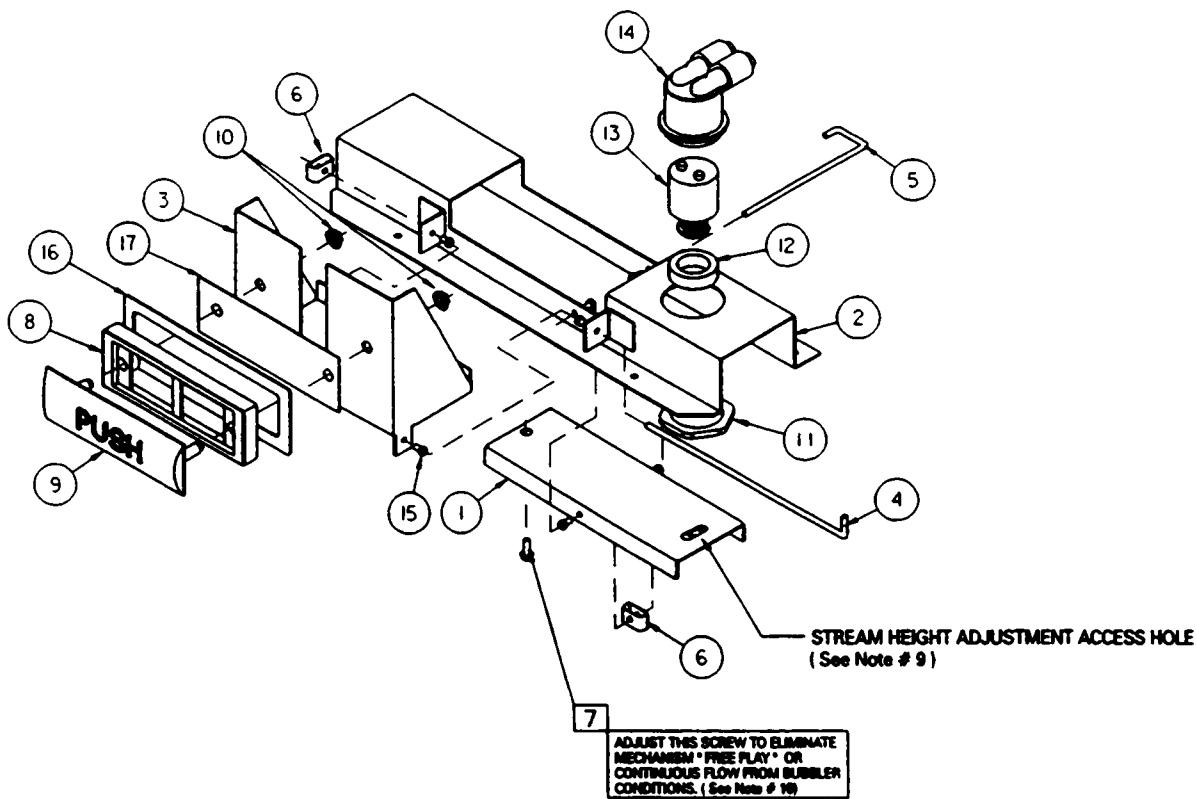

FIG. 7
9. Check stream height from bubbler. Stream height is factory factory set at 45 - 50 PSI. If supply pressure varies greatly from this, adjust screw on regulator (Item 13). Clockwise adjustment will raise stream height and CCW adjustment will lower stream height. For best adjustment stream height should be approximately  $1\frac{1}{2}$ " (38 mm) above the bubbler guard. (See Figure 7 and 9 on page 5)
- Turn adjustment screw (Item #7, figure 7, page 5) "Counter-Clock-wise" until water flow from bubbler starts.
9. Check stream height from bubbler. Stream height is factory set at 45 - 50 PSI. If supply pressure varies greatly from this, adjust screw on regulator (Item 15). Clockwise adjustment will raise stream height and CCW adjustment will lower stream height. For best adjustment stream height should be approximately  $1\frac{1}{2}$ " (38 mm) above the bubbler guard. (See Figure 7 and 9 on page 5)
- Turn adjustment screw (Item #9, figure 7, page 5) "Counter-Clock-wise" until water flow from bubbler starts.
9. Check stream height from bubbler. Stream height is factory set at 45 - 50 PSI. If supply pressure varies greatly from this, adjust screw on regulator (Item 13). Clockwise adjustment will raise stream height and CCW adjustment will lower stream height. For best adjustment stream height should be approximately 1  $\frac{1}{2}$ " (38 mm) above the bubbler guard. (See Figure 7 and 9 on page 5)